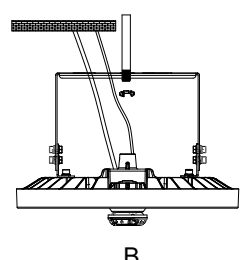

Fig 11
4. After installation, connect the wire of the fixture to the mains according to local wiring rules, ensure the connection is stable and protected on the connection. By adjusting the brackets screws, user can adjust 50° to the left or right vertically (Fig 11)